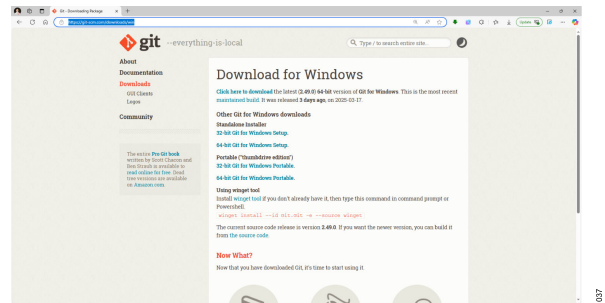

Figure 38. Download 64-bit Git for Windows Setup
- Download the **64-bit Git for Windows Setup** as shown in Figure 38 and install Git.